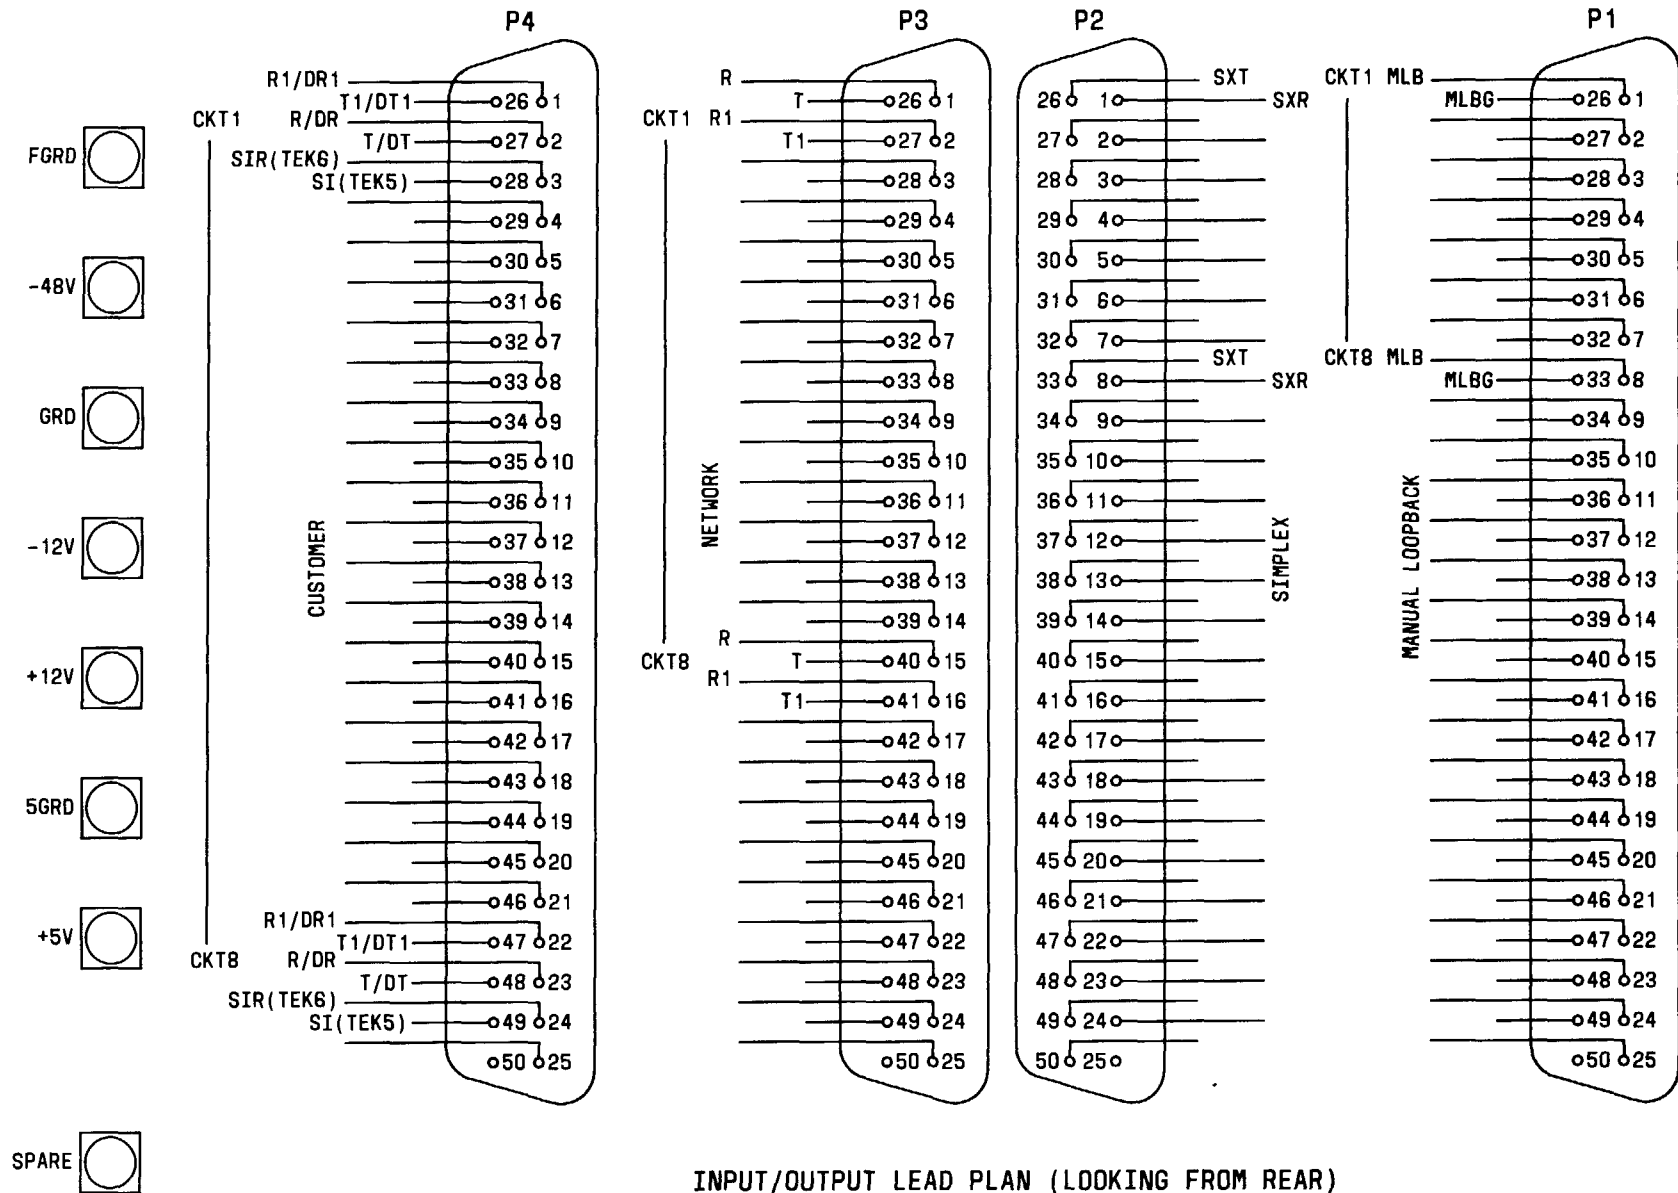
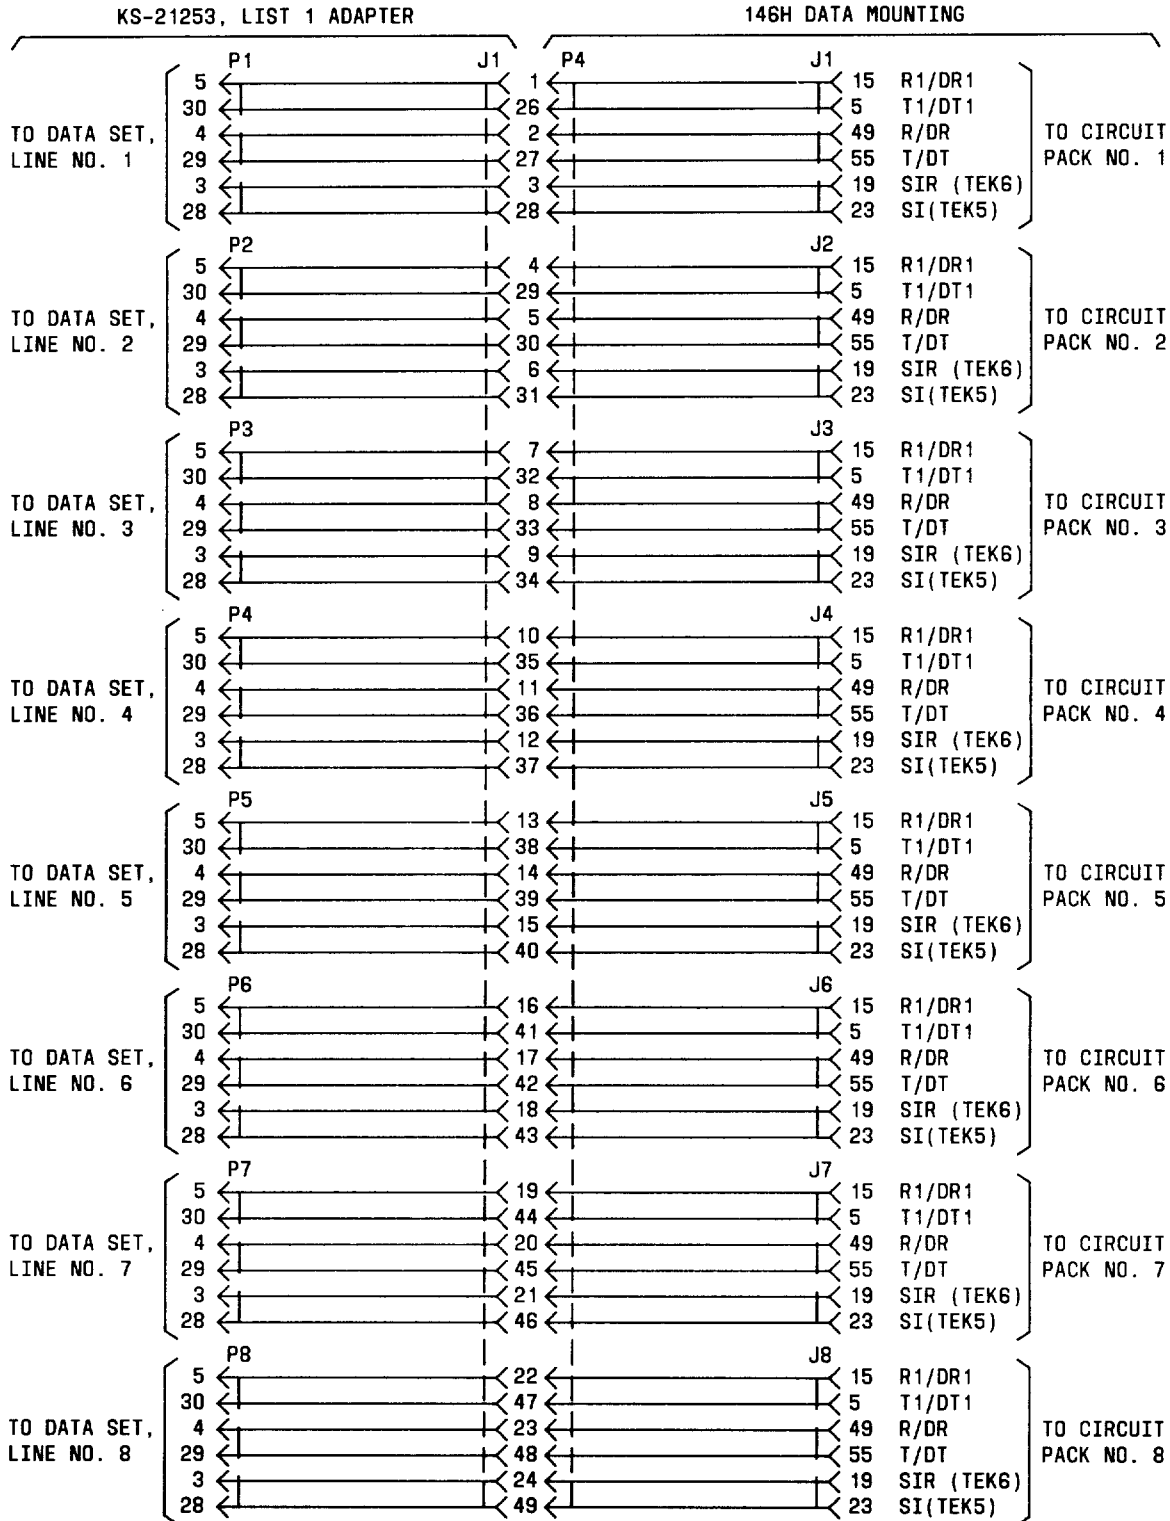

Fig. 3—146H Backplane Lead Plan Decal
Fig. 7—Lead Plan for KS-21253, List 1Adapter
4.14 Customer equipment connections for circuits 1 through 8 are made to 50-position miniature ribbon plug P4 on the unit backplane. Figure 3 shows the backplane connector lead plans and Table C provides an explanation of the customer interface lead functions. As an alternative, the KS-21253, List 1 adapter can be used to provide individual customer interface connections to each circuit pack. When the adapter is used, connector J1 of the adapter is connected to plug P4 on the unit backplane and customer equipment connections are made using 50-position miniature ribbon plugs P1 through P8 on the adapter. Figure 7 shows the lead plan for the KS-21253, List 1 adapter.
4.15 Network connections are made to the 146H mounting through 50-position miniature ribbon plugs P3, P2, and P1 on the unit backplane. The network transmission leads are connected to plug P3, simplex lead connections are made to plug P2, and access to the manual loopback leads (MLB and MLBG) is provided on plug P1. Figure 3 shows the
Note: The 50-position connector pin assignments are shown in Fig. 3.
Note: The location of the power and ground terminals and the 50-position connector pin assignments are shown in Fig. 3.